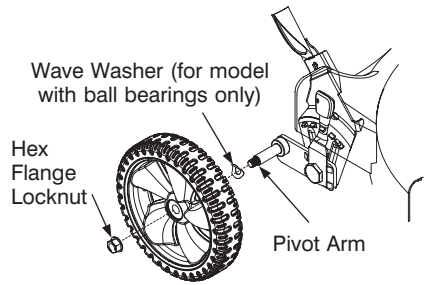

Figure 7 - Rear Wheel
- Attach the wheels to the pivot arms on the height adjusters with hex flange locknuts previously removed. See Figures 7 and 8.